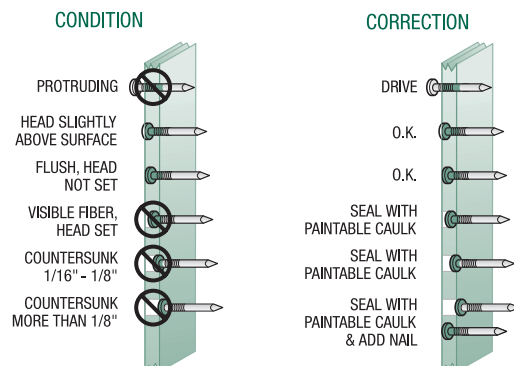

FIG. 1
- Nails must penetrate wood framing 1-1/2". See Fig 1.
- Avoid countersinking nails or rupturing the surface of the siding. If countersink occurs, caulk nail prior to painting. See Fig 1.
- Caulk around all openings such as window and door frames and at butt joints. Caulk all overdriven nails. *See Fig 1.*